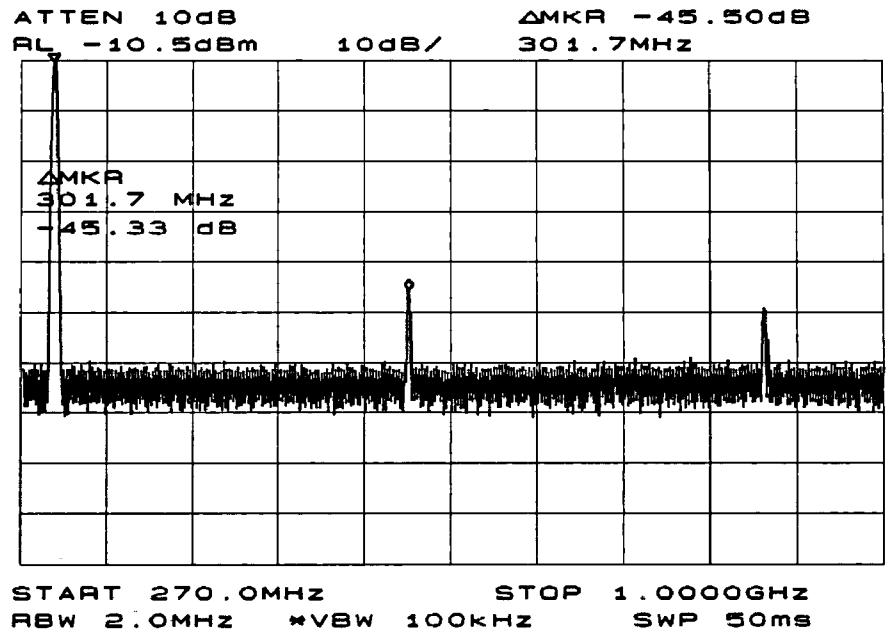
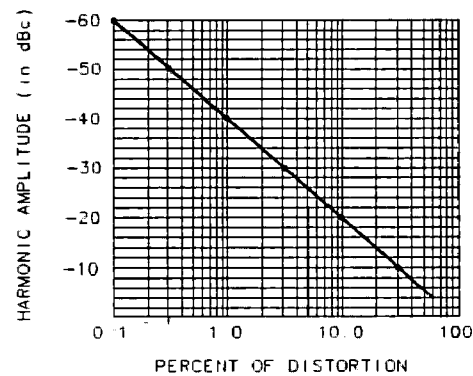

Figure 3-11. Harmonic Distortion Measured in dBc
Figure 3-12. Percent of Distortion Versus Harmonic Amplitude
2. For greatest measurement accuracy, raise the peak of the fundamental to the reference level by pressing **PEAK SEARCH**, **MKR→**, and then the key **MKR→REF LVL**. To measure the difference between the fundamental and a harmonic, activate a second marker by pressing **PEAK SEARCH**, **MARKER DELTA**, and **NEXT PEAK**. This places the second marker on the peak of the second harmonic, as shown in Figure 3-11. The difference in amplitude between the fundamental and second harmonic shown in the figure is approximately -45 dB, or 0.56% harmonic distortion (see Figure 3-12). To measure the third harmonic, press **NEXT PEAK** again. The marker in this example reads approximately -50 dB, or 0.32% distortion. Continue reading amplitudes and comparing them to Figure 3-12 for each additional harmonic you wish to measure.